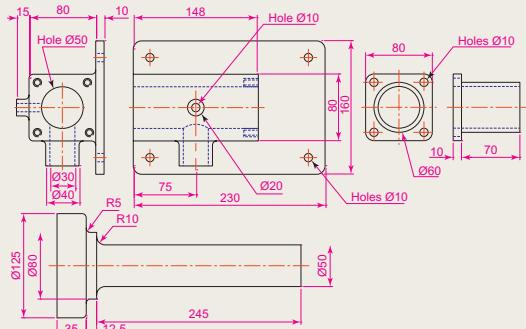
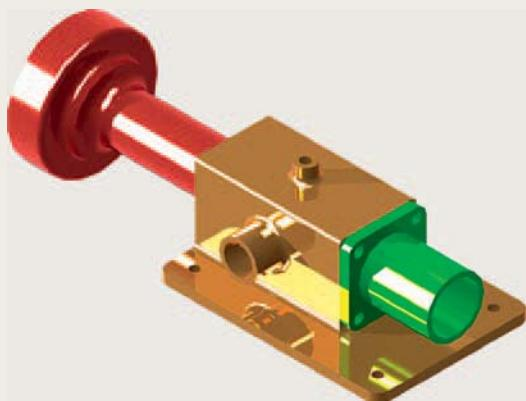

Fig. 18.24 Exercise 2 – details of shapes and sizes
Fig. 18.25 Exercise 2
2. Working to the dimensions given in the orthographic projections of the three parts of this 3D model (Fig. 18.24), construct the assembly as shown in the rendered 3D model Fig. 18.25.